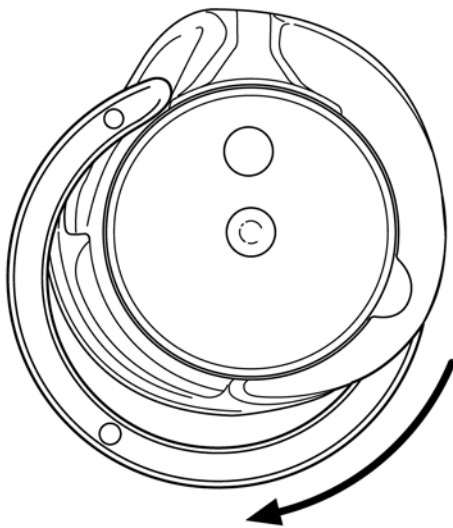

Fig.64
- Turn the sewing hook gib to the left into the bobbin case base (fig. 64).